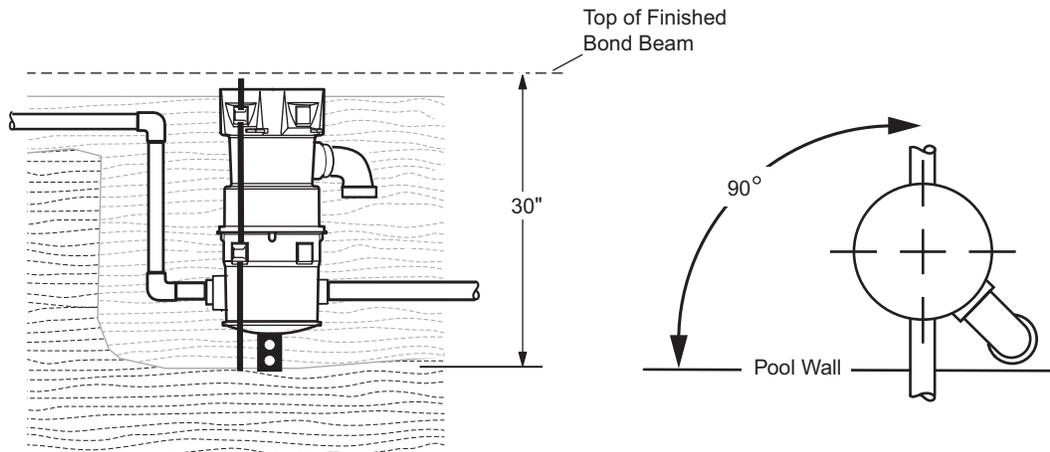

Figure 4. Deck Canister Installation
Excavate the Jandy® Leaf-B-Gone™ niche: 30" deep (from top of finished bond beam) by 22" wide and 18" back into the wall (see Figure 4).
- Glue the sweep 90-degree and reducer bushing onto the canister (see Figure 4).